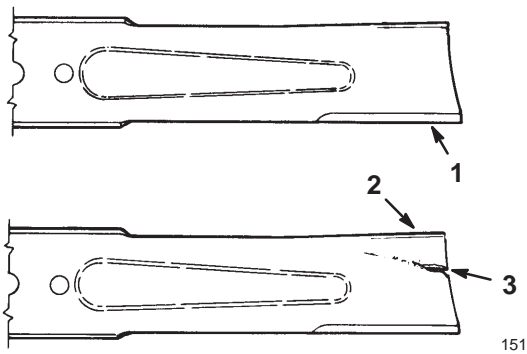

Figure 33
2. Inspect the cutting edges (Fig. 33). If the edges are not sharp or have nicks, remove the blades and sharpen them; refer to Sharpening the Blades on page 30.
3. Inspect the blades, especially the curved area (Fig. 33). If you notice any damage, wear, or a slot forming in this area (Fig. 33), immediately install a new blade.